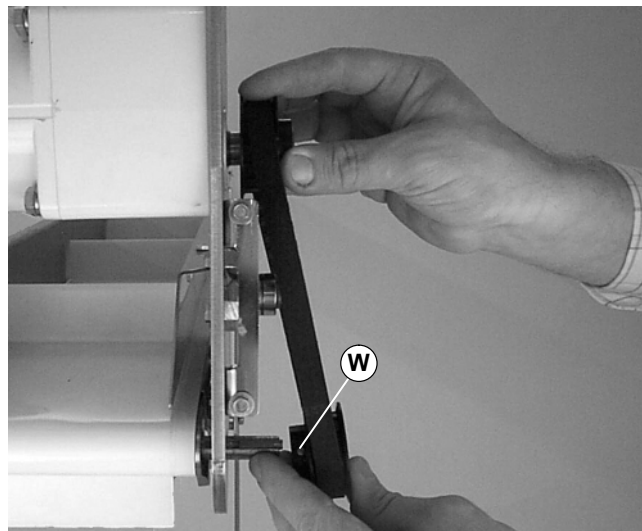

Figure 15
3. Remove timing belt (O).
**NOTE:** If timing belt does not slide over pulley flange, loosen driven pulley set screws (W of Figure 15) and remove pulley with belt. For re-installation, see steps 5 and 6 on pages 5 and 6.